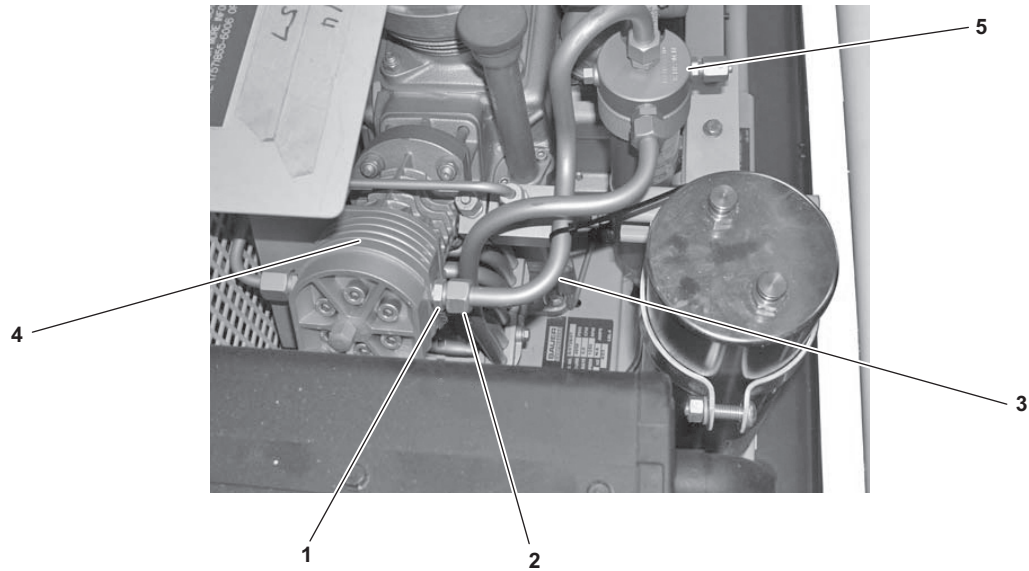

Figure 6-28. Intermediate Separator Connection to 3rd Stage Cylinder
- (3) While holding the nipple fitting (figure 6-28, item 1) in place with a 11/16 inch wrench, use a 3/4 inch wrench to loosen (CCW) the flare fitting (figure 6-28, item 2) on the line (figure 6-28, item 3) at the 3rd stage cylinder (figure 6-28, item 4). This will facilitate removing the intermediate separator (figure 6-28, item 5).